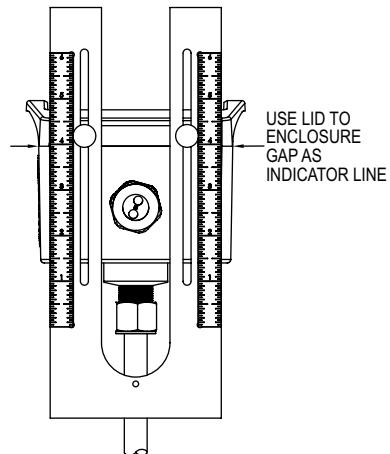

Figure 5: Alignment scale installed on IEFB
1. To prepare the meter for installation, mount the provided alignment scale to the side of the meter using the two captured thumbscrews, finger tighten only. Be sure to orient the alignment scale as shown in Figure 5 below. Actual scale setting determined in next step.
2. Use the configuration tag attached to the Series IEFB to identify the value of the alignment scale setting. Position the alignment scale such that the scale setting is lined-up with the seam of the enclosure as shown in Figure 5. Securely tighten the thumbscrews.